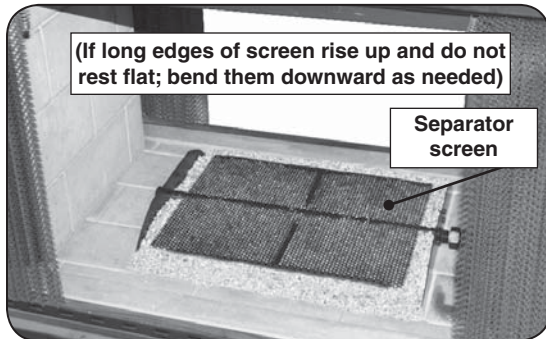

Fig. 15-2
2. Place the separator screen over the granules such that the long edges secure over the outside burner tubes, as shown in Fig. 15-2 and 15-3. If the long edges of the screen rise up and do not rest flat, bend them downward as needed.